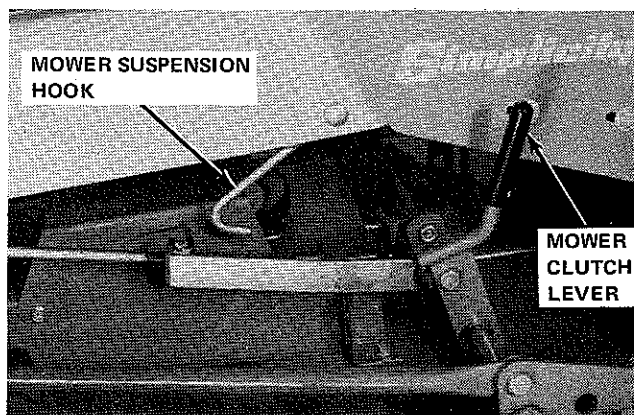
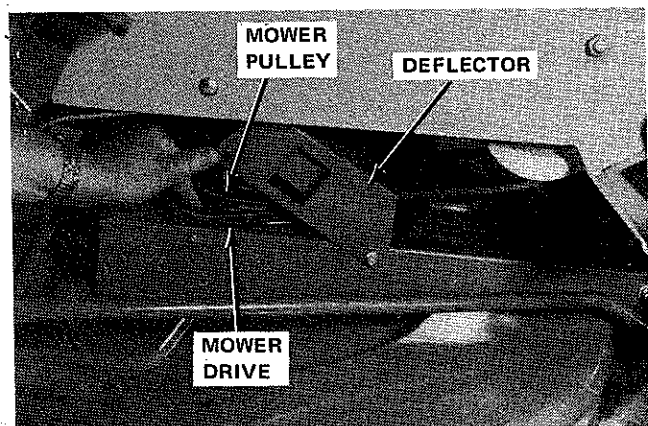

Figure 6-5. Mower Clutch Lever and Suspension Hook
Figure 6-7. Mower Drive Belt and Pulley
1. Disengage mower from engine by moving mower clutch lever (Figure 6-5) to the rear and up. Disengage mower suspension hook and lower mower.
3. Lifting deflector, disengage mower drive belt from mower pulley (Figure 6-7). To separate belt from pulley, it may be necessary to move entire mower forward slightly.
2. Lifting deflector, engage mower drive belt and mower pulley (Figure 6-7). Mower clutch lever must be in disengaged position or to the rear and up (Figure 6-5).